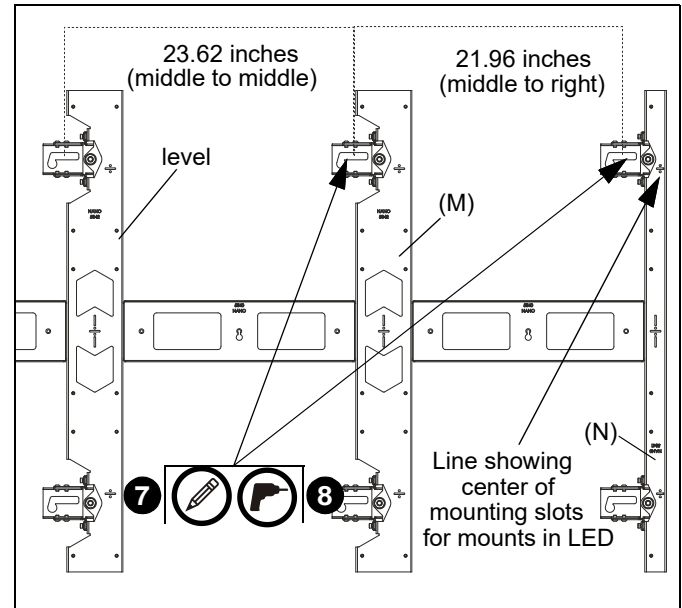

Figure 21
NOTE: The mounting holes are 23.62" apart on-center for center (M) and center (M) or 21.96" apart for center (M) and right (N) uprights. (See Figure 21)